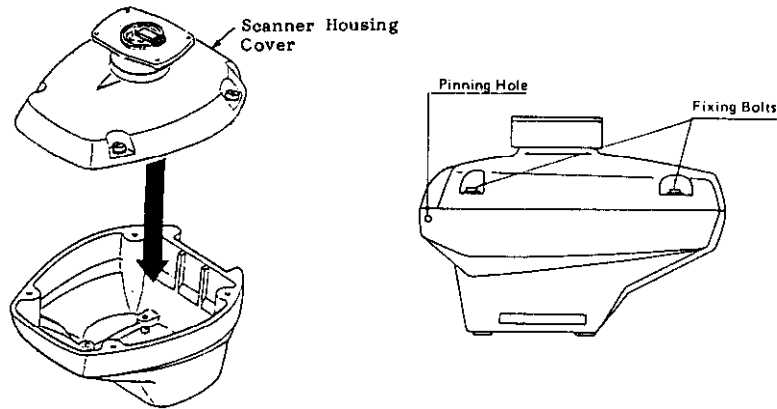

Fig.6 Assembling of Scanner Housing
1. Place the scanner housing cover onto the scanner housing. Fasten the four fixing bolts temporarily by hand as shown in Fig. 6.
2. Apply grease to the two slot pins and insert them into the pinning holes shown in Fig.6 until the pin head becomes flush with the scanner housing surface. It is recommended to use a wooden hammer to avoid damaging the cosmetic paint.